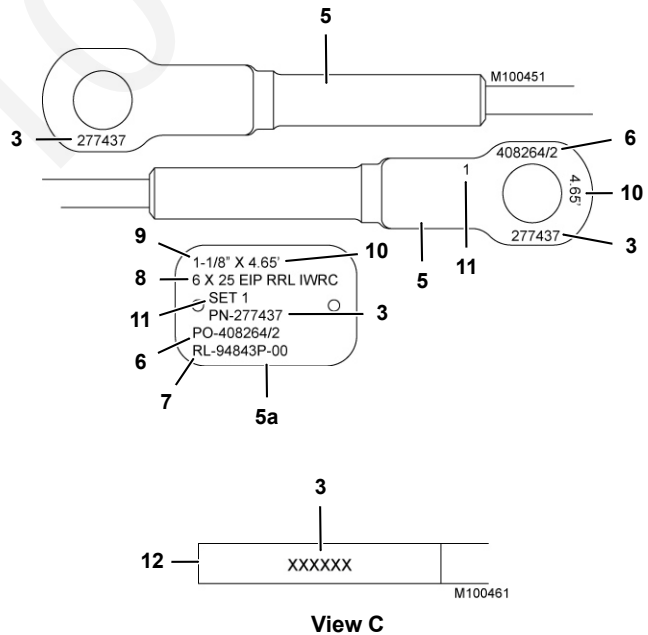

FIGURE 4-27
Boom and jib sections are marked for proper identification as shown in Views A and B, Figure 4-27.
Boom and jib pendants are marked for proper identification as shown in View C, Figure 4-27.
Boom straps and links are marked for proper identification as shown in View D, Figure 4-27.
**NOTE:** The markings shown in Figure 4-27 can vary depending on when your crane was produced and the original equipment manufacturer.